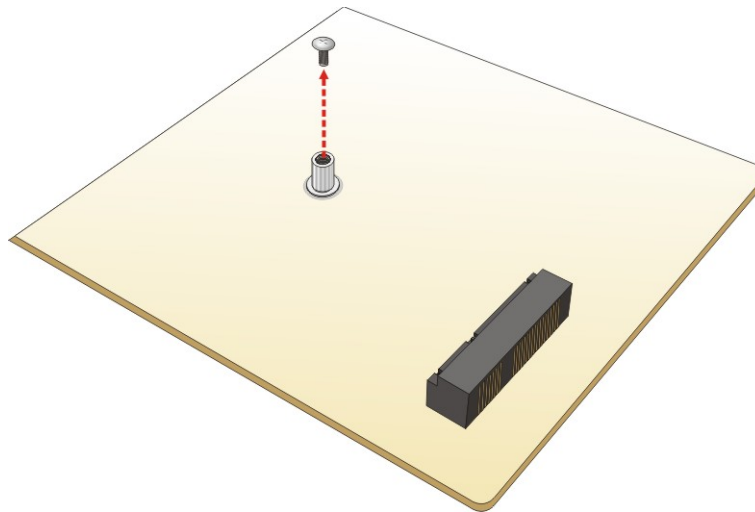

Figure 4-9: Removing the Retention Screw for the mSATA Module
Step 2: Remove the retention screw. Remove the retention screw secured on the motherboard as shown in **Figure 4-9**.